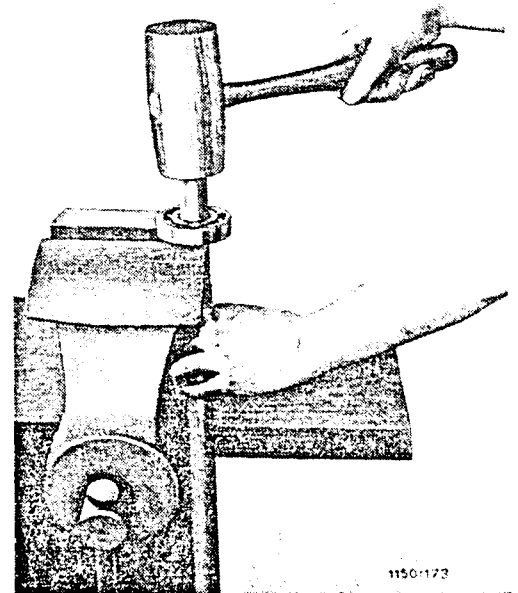

Fig. 15
7. Pull off the grooved ball bearings (409) from the shaft. To do this, first warm the ball bearings, keeping the shaft itself as cold as possible. Then drive the shaft out of the ball bearings with gentle taps – see fig. 15.